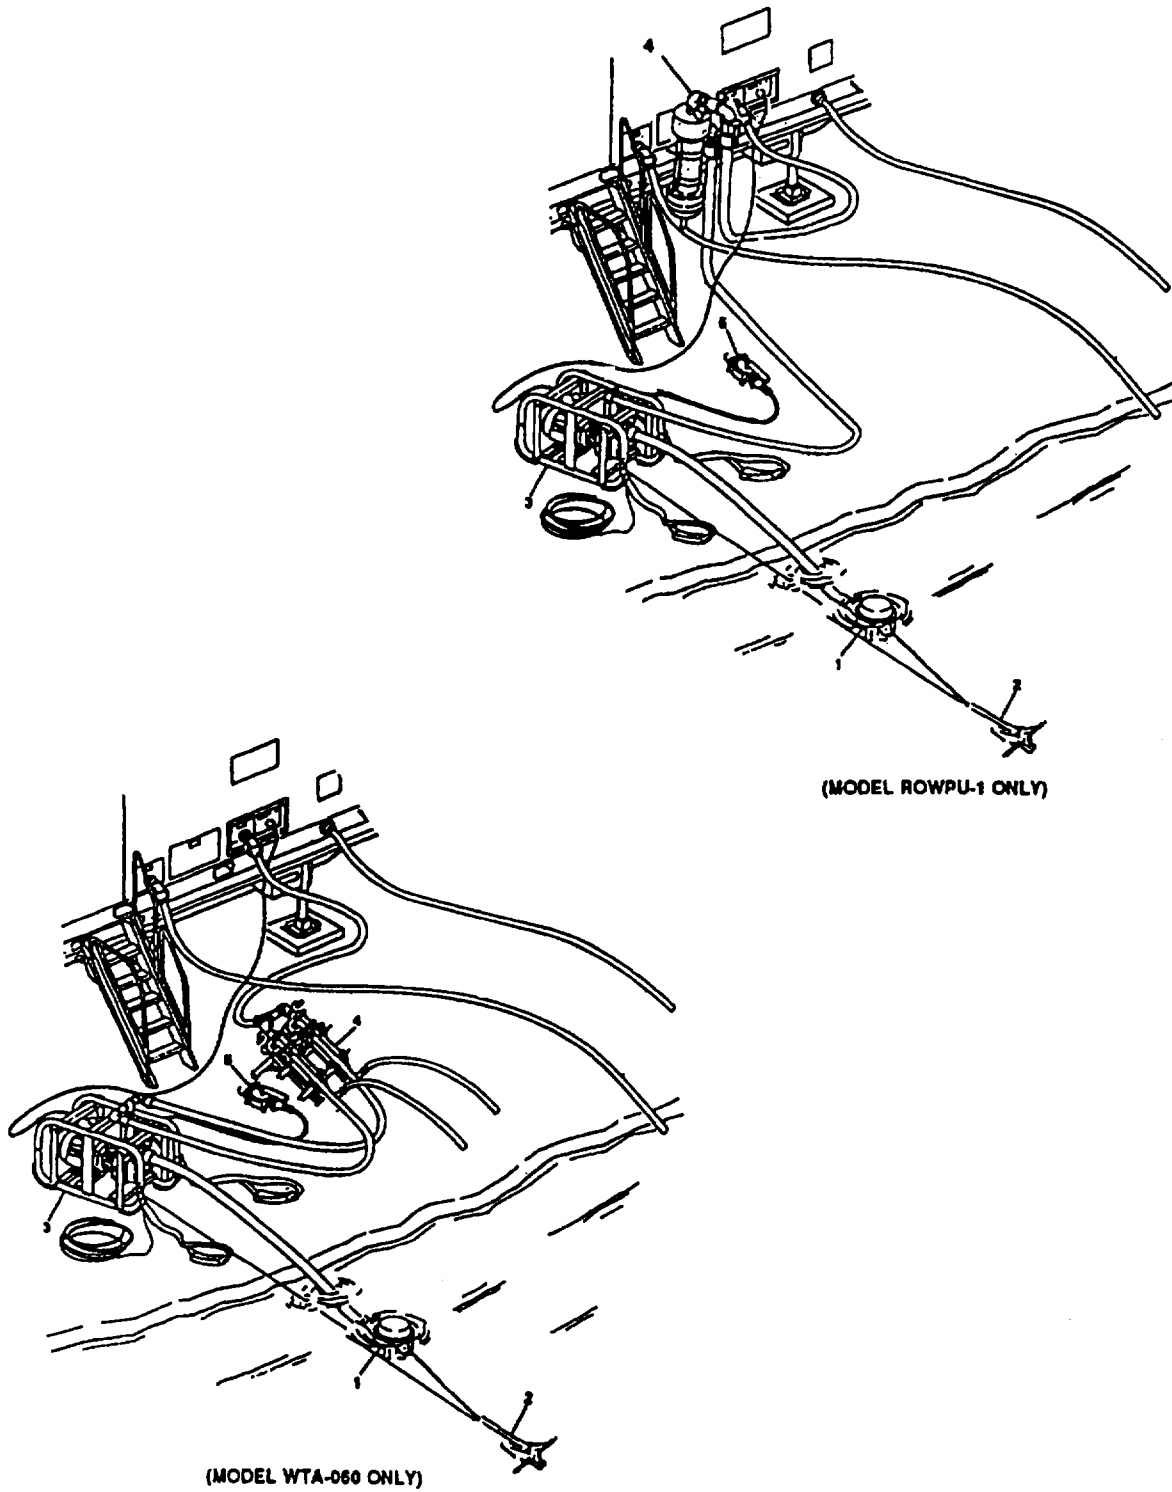

Figure 1-3. Major Components of the Raw Water Intake System
a. *Raw Water Intake System (Figure 1-3).* The Raw Water Intake System supplies feed water to the ROWPU and consists of the following major components.
- (1) *Intake Strainer.* A floating intake strainer holds the raw water intake hose off the bottom of the water source and screens out leaves, sticks, fish, and other large objects. It is connected by sections of rigid suction hose to the raw water pump. A non-floating strainer (part of winterization kit) is used for ice hole operation.
- (2) *Anchor.* Used to deploy the intake strainer and hold it in place.
- (3) *Raw Water Pump.* Draws water through the intake strainer and discharges the water to the cyclone separators. A hand priming pump is used to assist initial prime to the water pump.
- (4) *Cyclone Separators.* Remove sand and heavy dirt by centrifugal water flow action. Raw water discharge hose sections deliver the water from separators to the water purification system at the feed water booster pump inlet.
- (5) *Priming Assist Pump.* This hand operated pump is used to help draw water up to the raw water pump. It is disconnected from raw water pump after priming is completed.